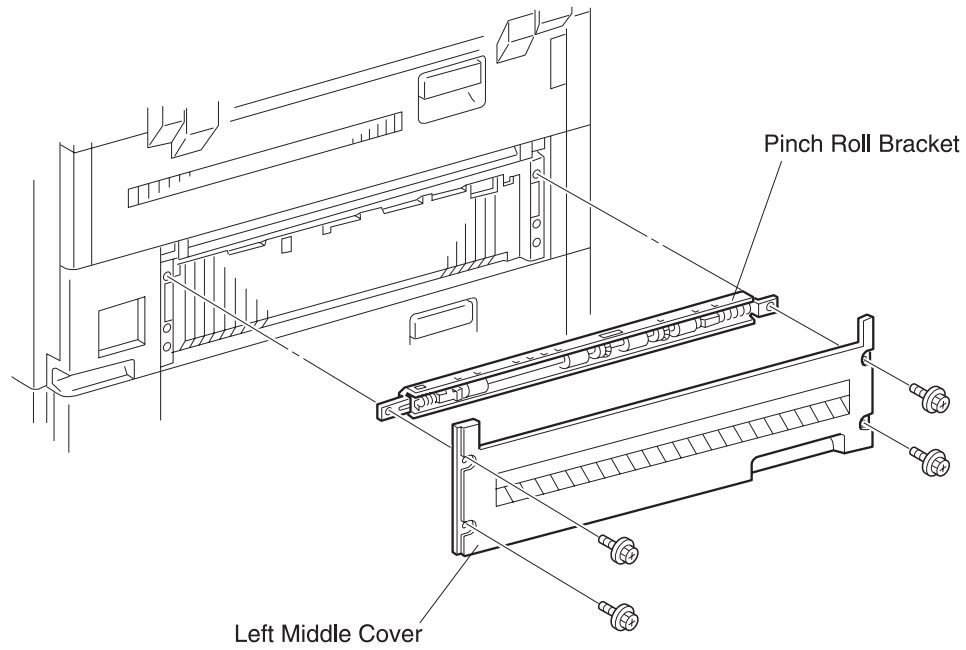

Figure 1
7. Slide a Center Bearing under each Holding Spring (Figure 1).